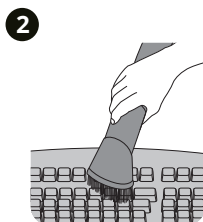

Figure 2
2. Insert the appropriate accessory onto the handle depending on what type of surface you want to vacuum as shown in figure 2.